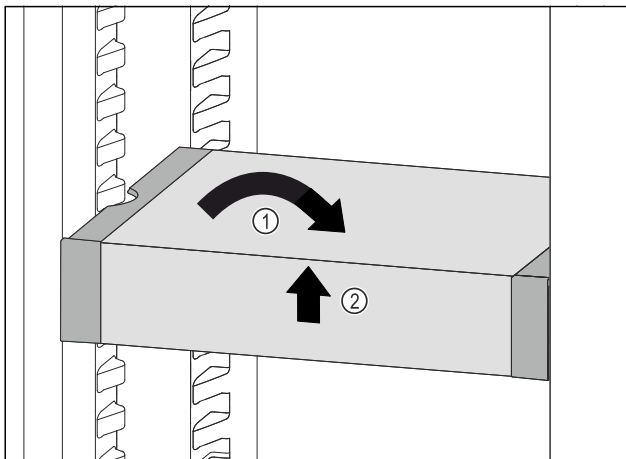

Fig. 70
- ▶ Set VarioSafe straight. Fig. 70 (1)
- ▶ Lift VarioSafe at the front. Fig. 70 (2)